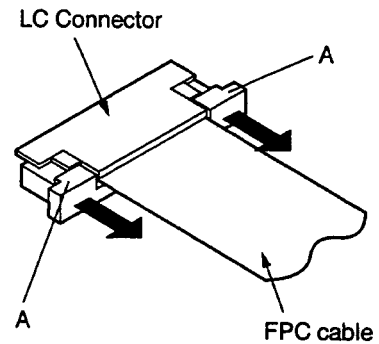

Fig. 1
- To remove the FPC cable, hold the Connector for the FPC cable on the area A shown in Fig.1. Pull it in the direction shown by arrow in Fig.1.
- To insert the Connector, place the Connector with the exposed terminals to the outside of the PCB-MAIN. Push the Connector in the opposite direction of arrow in Fig.1.